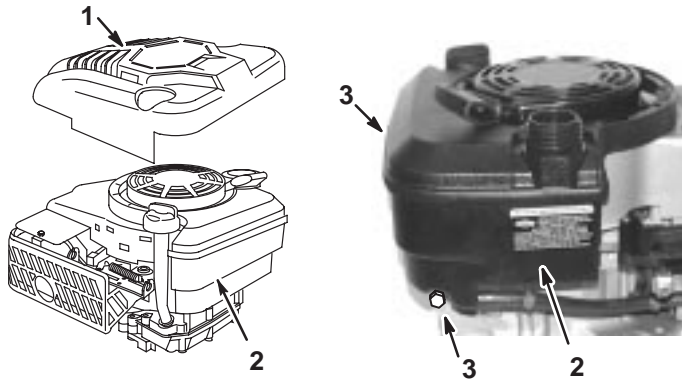

Fig. 36 – Removing Static Guard and Fuel Tank
2. Remove static guard and fuel tank, Fig. 36.